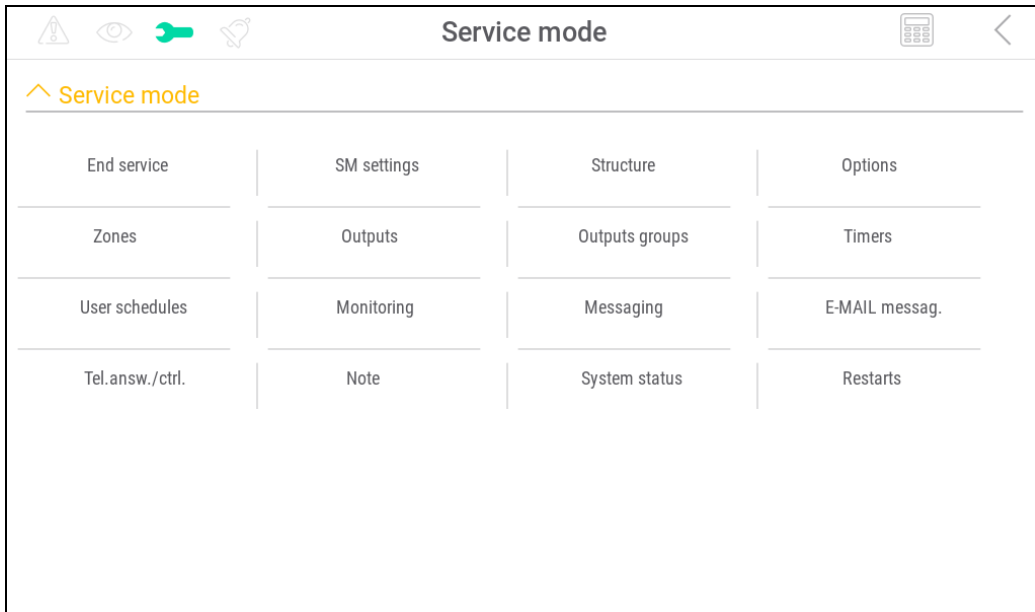

Fig. 12. Service menu.
5. Tap the "Service mode" function. The service menu will be displayed (Fig. 12).